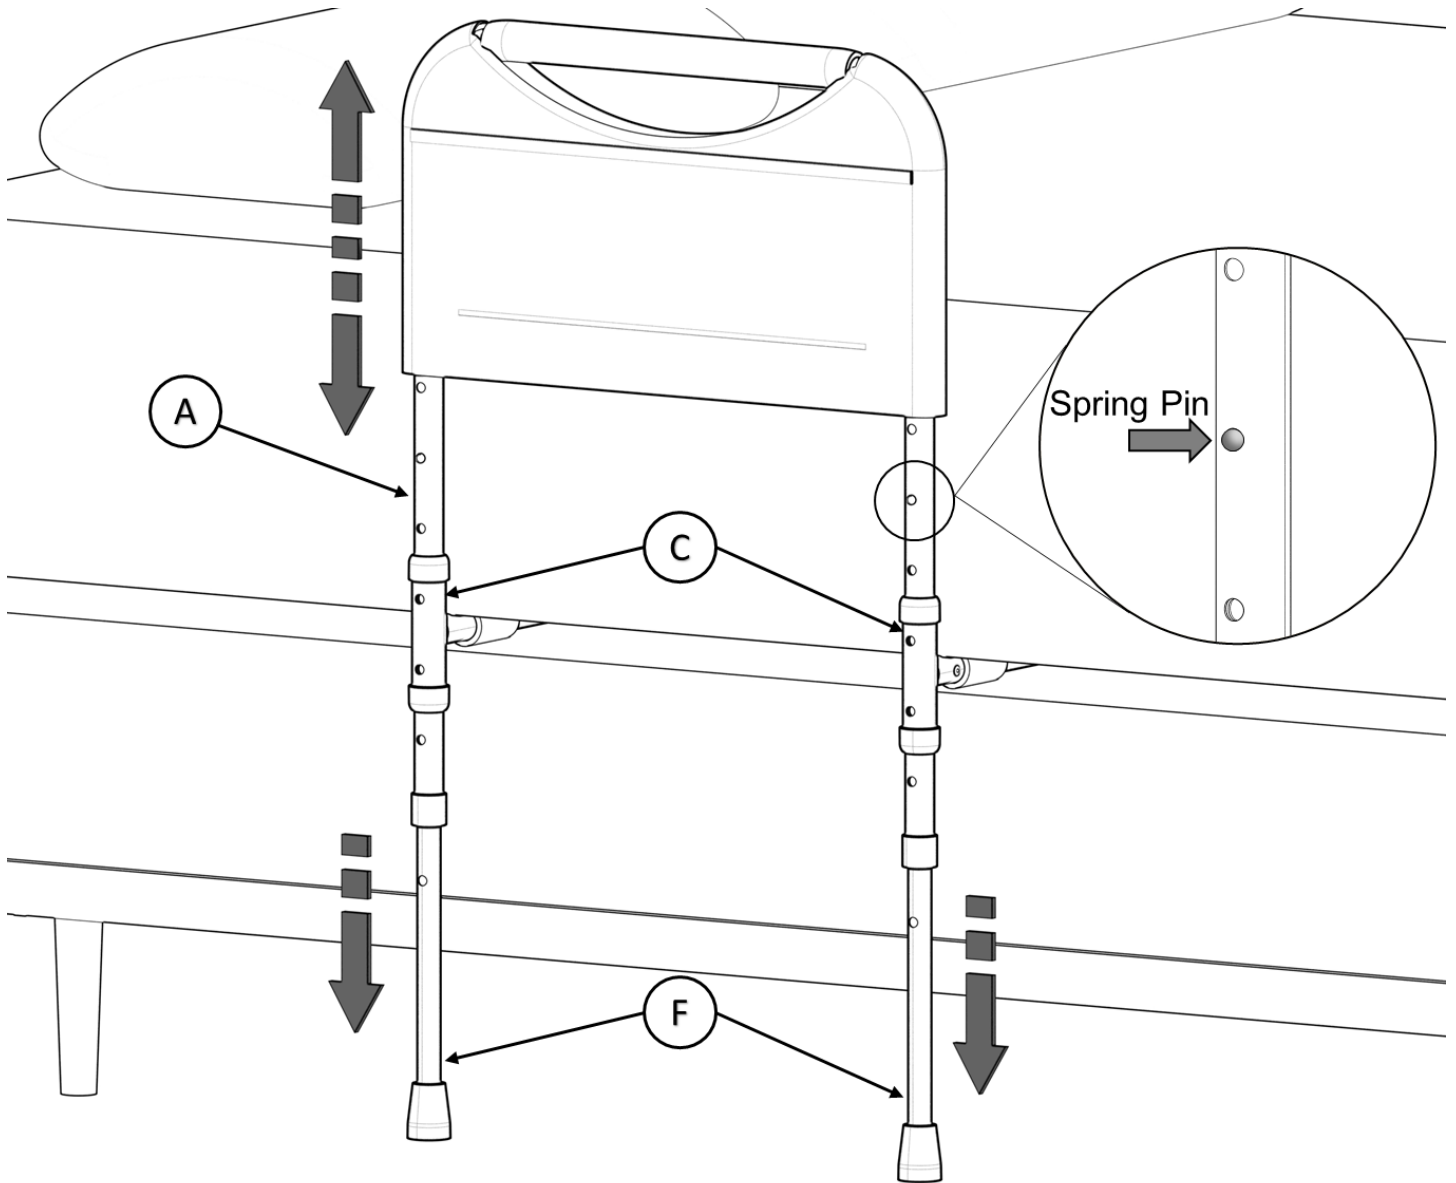

FIGURE 3
3. Place part **C** between mattress and box spring as shown in Figure 3; Position top of handle (Part **A**) at a minimum of 4in (10.25cm) above top surface of mattress. Slide legs (Part **F**) to the floor; Allow the spring pin in part **F** to engage one of the holes in part **A**. (Depending on adjustment, the spring pin may engage with part **C** as well).